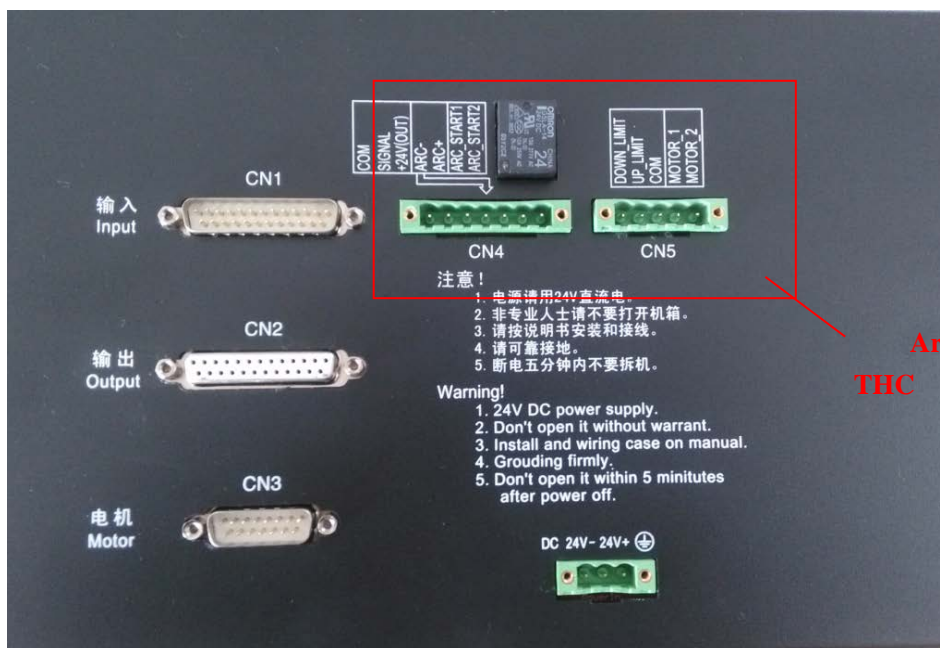

Fig.11.13 F2100T system interface schematic diagram
**If use 50: 1 divider board, open the system box, find the switches showing as the figure 11.13. When this switch is on, divider board is 50: 1, otherwise 100: 1. Default position is OFF, 100:1.**